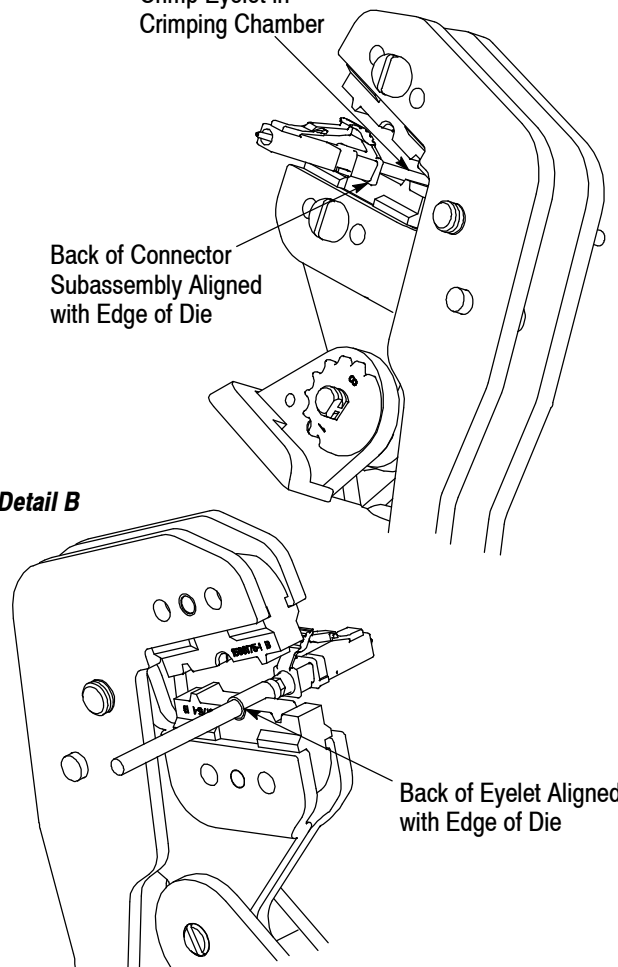

Figure 10
4. Install the die into the hand tool frame. Position the crimp eyelet into the crimping chamber of the die. Make sure that the back of the connector subassembly is aligned with the edge of the die. See Figure 10, Detail A.
6. Again, position the crimp eyelet into the crimping chamber of the die. Make sure to align the end of the crimp eyelet (cable jacket side) with the edge of the die. See Figure 10, Detail B.